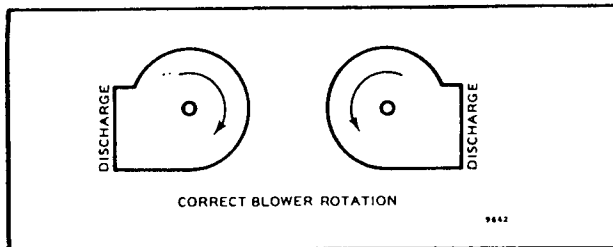

FIGURE 12 – THREE-PHASE BLOWER ROTATION
5. Check for proper blower rotation on three phase units. See Fig. 12. Correct by interchanging any two of the power supply connections.